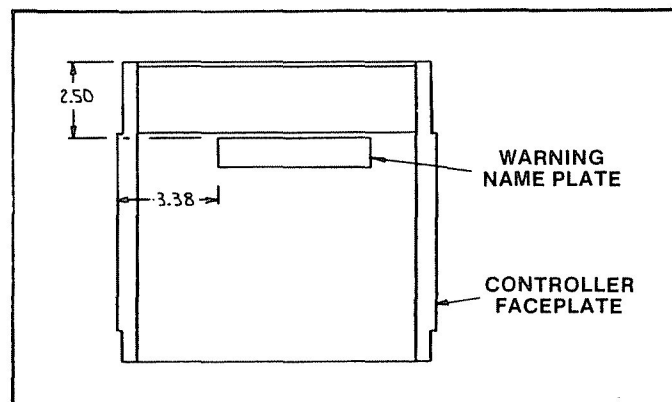

Figure 7 — Auxiliary Kit Warning Plate Location
10. Mount warning name plate to power module face plate per Figure 7.